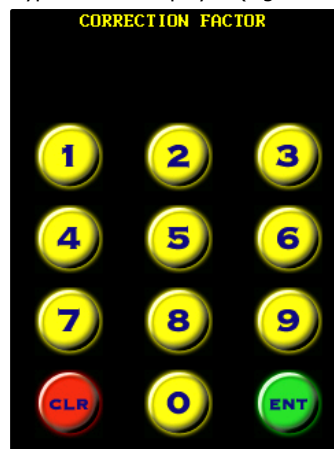

Figure 4.3.24-6: Numeric Keypad
**Result:** A numeric keypad will be displayed (Figure 4.3.24-6).